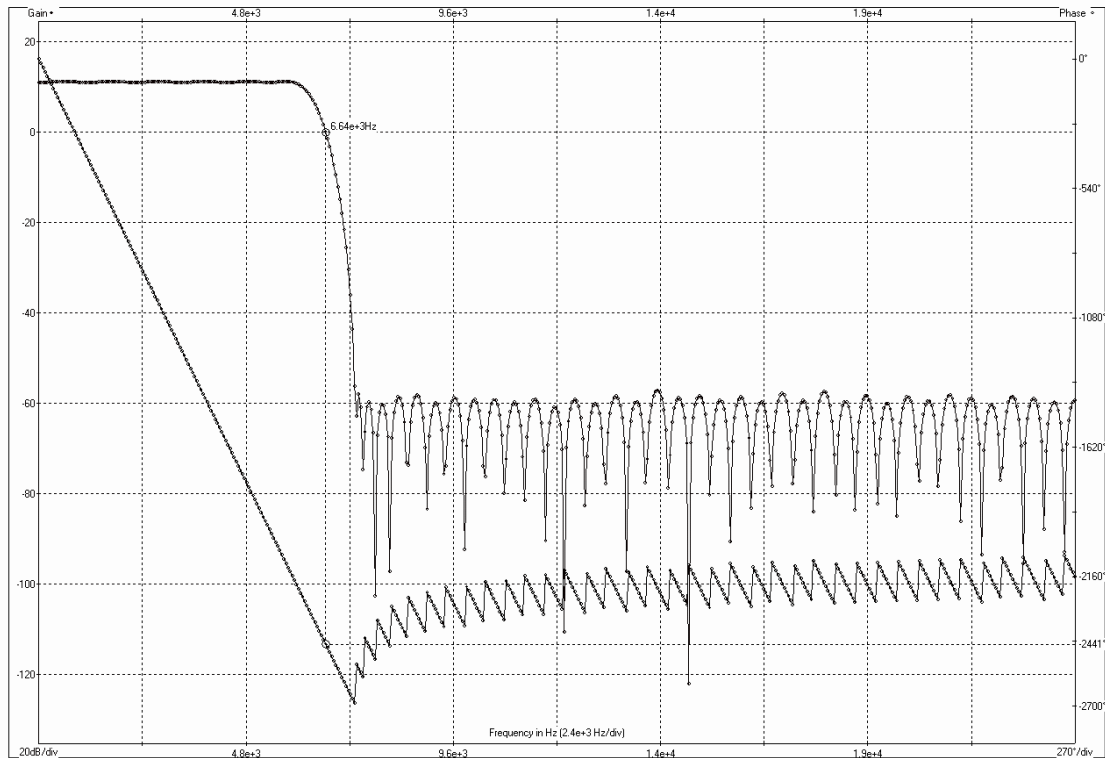

Figure 15 IQ Filter response in 25kHz operation.
13. Adjacent channel filtering is the ability of the CMX910 filters to reject adjacent channel energy and note that it does not correspond directly to the 'Adjacent Channel Selectivity' as defined by IEC61993-2 (or IEC 62287). The filter characteristic in each of the I and Q paths for 25kHz mode operation is shown in Figure 15. Note that the pass-band has a gain of +10dB and stop band is -60dB so the typical rejection is $+10 - (-60) = 70\text{dB}$.